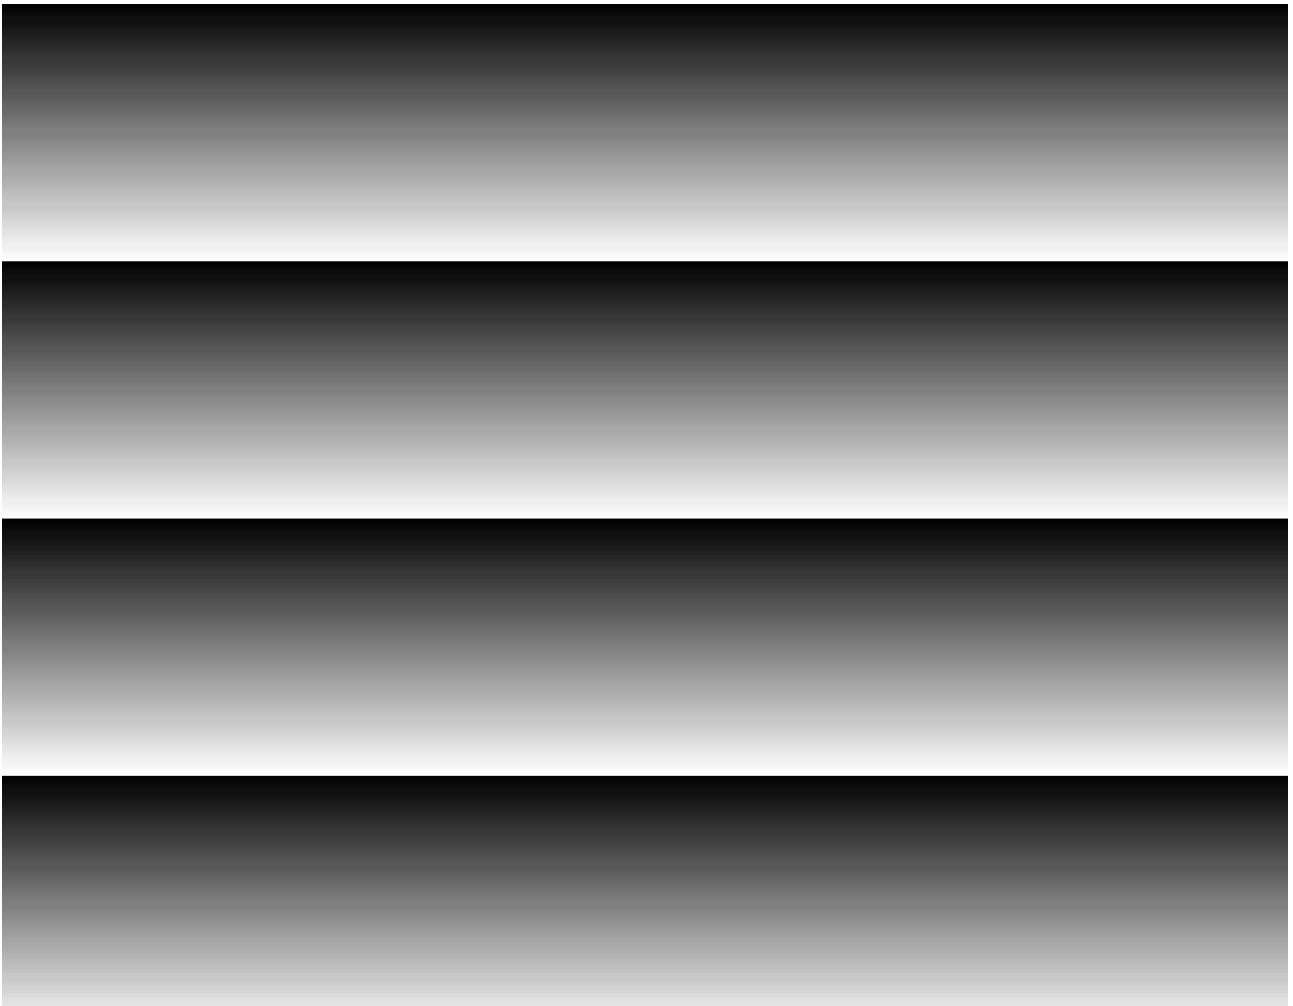

Figure 17 : Vertical pattern
3. Vertical ramp – a gray scale vertical gradient as shown in Figure 17.